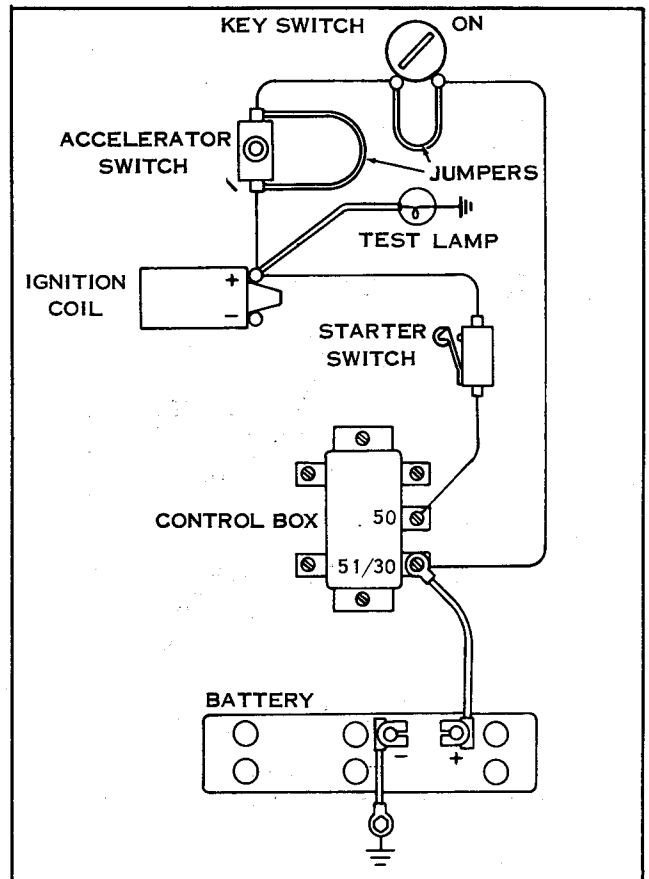

Figure 5E-19D. Step 4
5. Starter switch is located on the left side of the engine and is actuated by the inward and outward movement of the transmission cover. With key-switch in "ON" position and accelerator pedal pressed to close accelerator switch, touch test light leads to terminals of starter switch. See Fig. 5E-19E. Be sure to keep hand free of transmission moving parts. If the test light glows, switch is either defective or out of adjustment. Using a small screw driver, press on switch lever to press plunger farther into switch. If the engine now fails to turn over, switch is defective. See MICRO-SWITCH Section 5-C. If engine turns over when switch plunger is depressed, readjust micro-switch on mounting bracket closer to transmission cover. See MICRO-SWITCH Section 5-C.